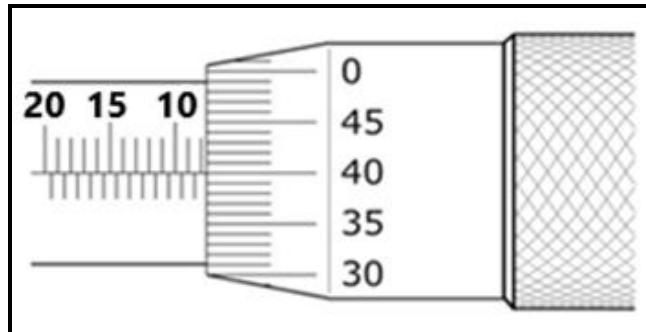

FIGURE 7.1
7.1 Determine the depth micrometer reading shown in FIGURE 7.1.